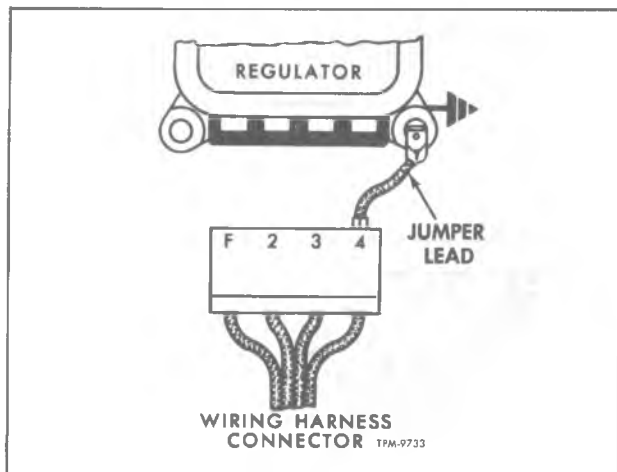
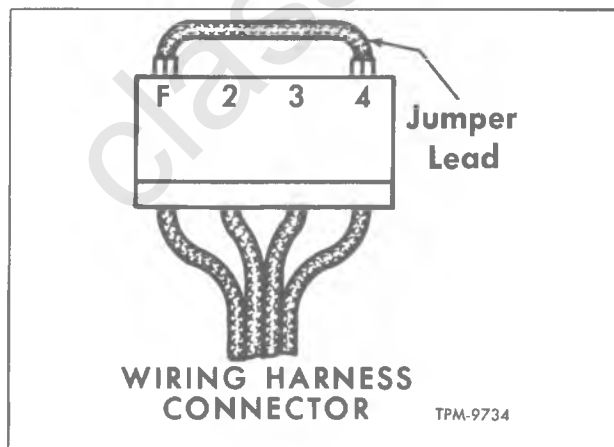

Figure 7—Jumper Lead Connections for Testing Indicator Lamp Circuit (Typical)
Figure 8—Checking Indicator Lamp Wiring
4. Referring to figure 7, insert jumper lead into #4 terminal socket in harness connector and ground the other end to regulator base as illus-
5. If indicator lamp comes on when #4 socket in wiring harness connector is grounded (fig. 7), connect jumper lead between wiring harness connector terminals "F" and #4 as shown in figure 8. Turn ignition or control switch on momentarily.